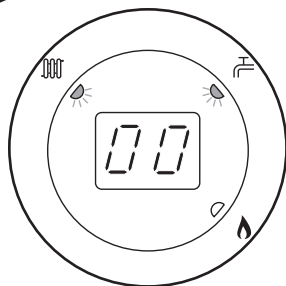
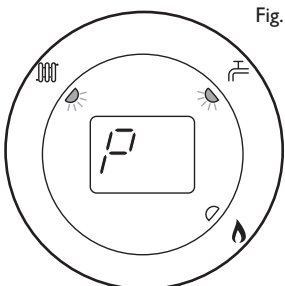

Fig. 37
Fig. 38
5. Turn CH temperature control knob fully clockwise. As the knob is turned the display will change from '0' to '00' (Fig. 37) indicating maximum rate, then revert to 'P' alternating with the current boiler temperature (Figs 38 & 39).